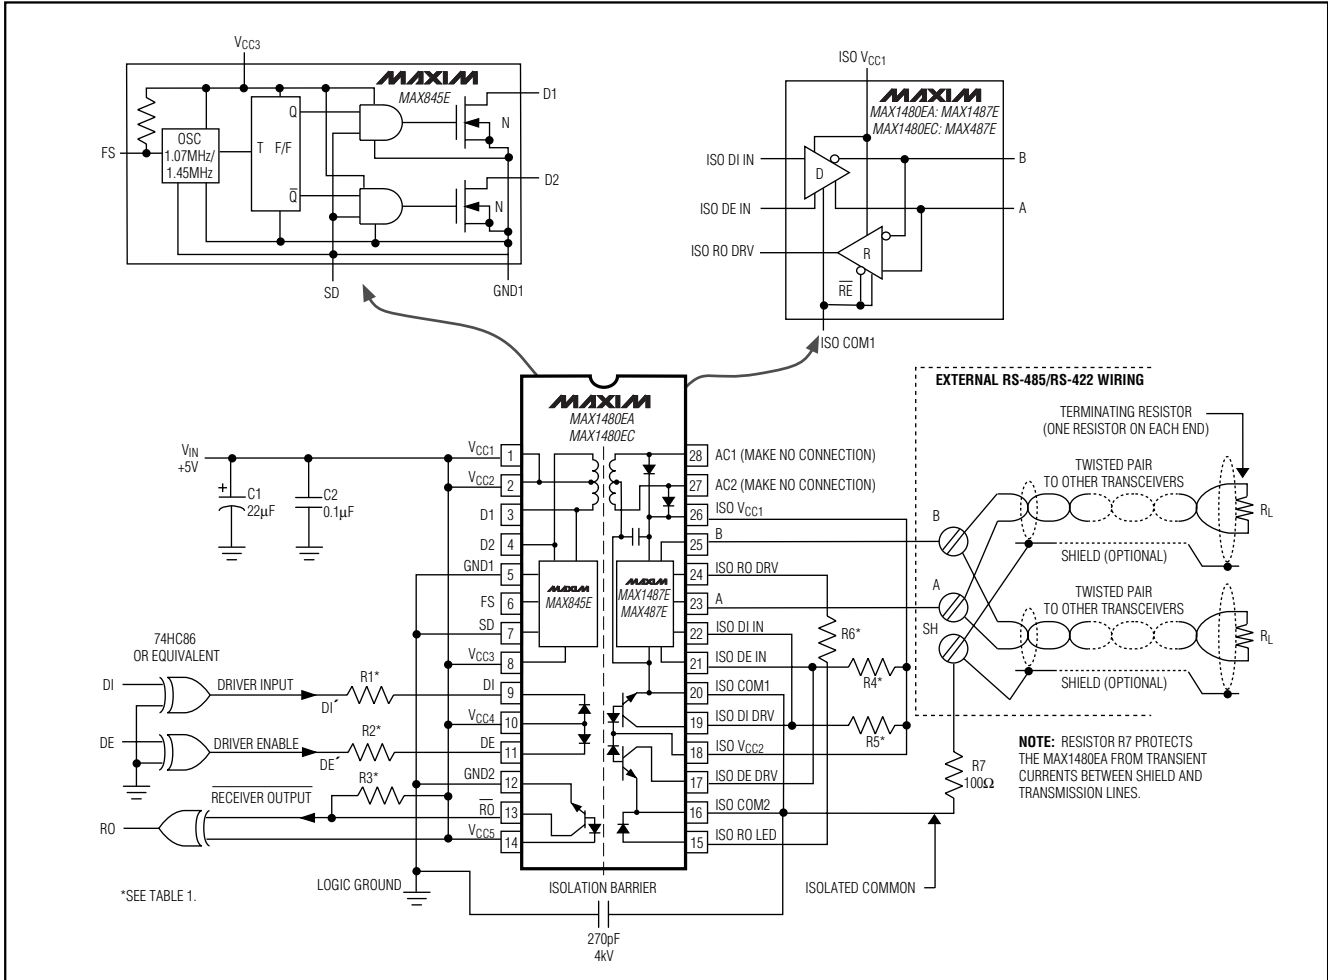
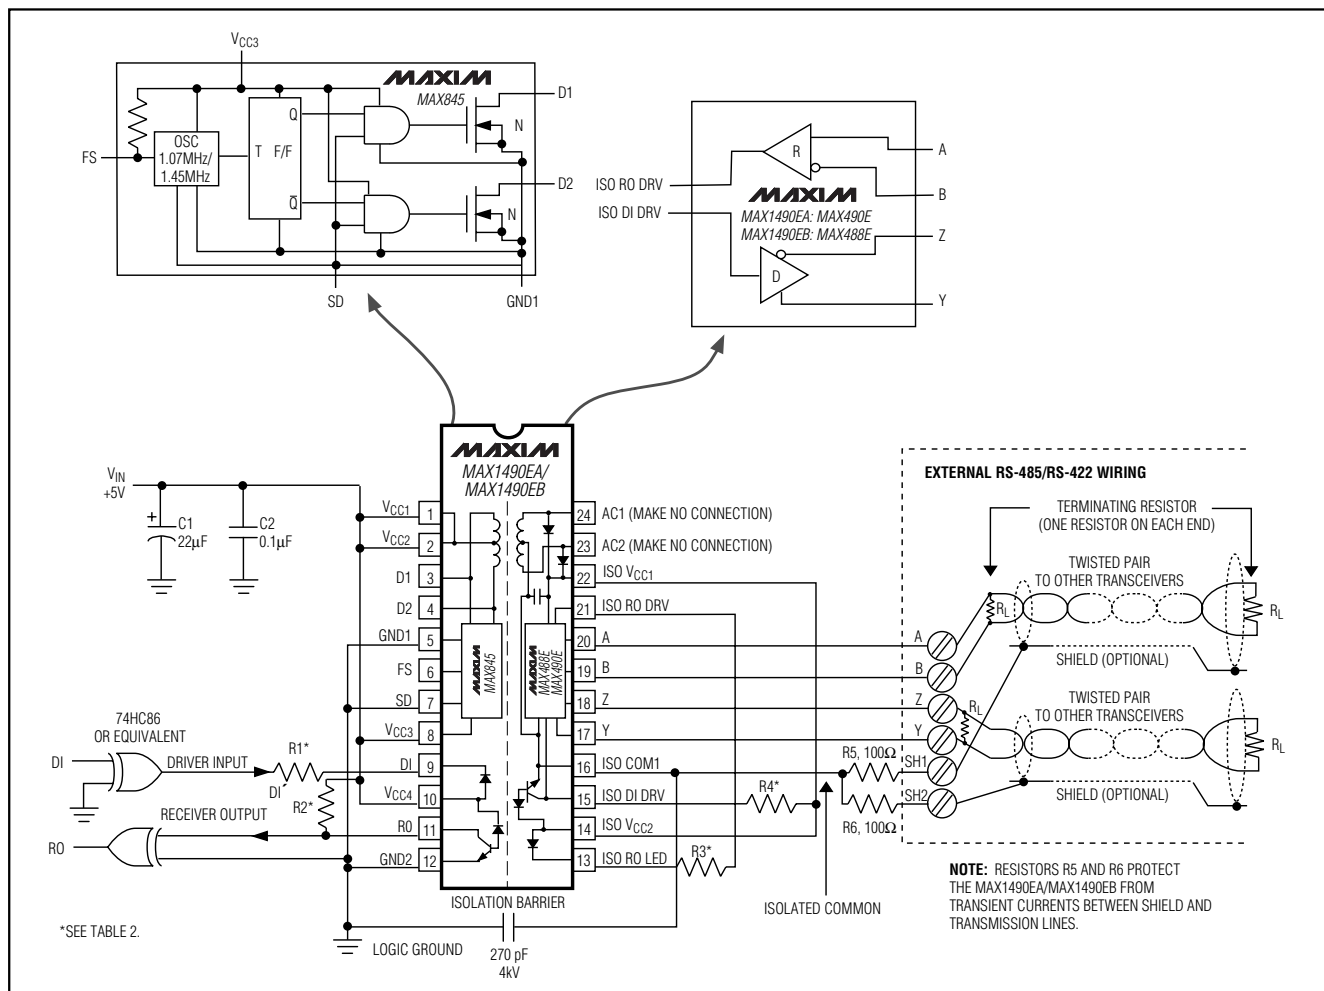

Figure 1. MAX1480EA/MAX1480EC Detailed Block Diagram and Application Circuit
Figure 2. MAX1490EA/MAX1490EB Detailed Block Diagram and Typical Application Circuit
Note 2: For DE⁺ and DI⁺ pin descriptions, see *Detailed Block Diagram and Typical Application Circuit* (Figure 1 for MAX1480EA/MAX1480EC, Figure 2 for MAX1490EA/MAX1490EB).
($V_{CC-} = +5V$, $V_{FS} = V_{CC-}$, Figures 1 and 2, $T_A = +25^\circ C$, unless otherwise noted.)
($V_{CC-} = +5V$, $V_{FS} = V_{CC-}$, $V_{DI} = 0$, \overline{DE} toggled 0 to 5V at 5kHz, Figures 1 and 2, $T_A = +25^\circ C$, unless otherwise noted.)
Note: For DE⁺ and DI⁺ pin descriptions, see Detailed Block Diagram and Typical Application Circuit (Figure 1 for MAX1480EA/MAX1480EC, Figure 2 for MAX1490EA/MAX1490EB).
The MAX1480EA/MAX1480EC/MAX1490EA/MAX1490EB are complete, electrically isolated, RS-485/RS-422 data-communications interface solutions. Transceivers, optocouplers, a power driver, and a transformer in one standard 28-pin DIP package (24-pin package for the MAX1490EA/MAX1490EB) provide a complete interface. Signals and power are internally transported across the isolation barrier (Figures 1, 2). Power is transferred from the logic side (nonisolated side) to the isolated side of the barrier through a center-tapped transformer. Signals cross the barrier through high-speed optocouplers. A single +5V supply on the logic side powers both sides of the interface. The MAX1480EA/MAX1480EC offer half-duplex communications while the MAX1490EA/MAX1490EB feature full-duplex communication. The functional input/output relationships are shown in Tables 3 through 6.
Table 1. Pullup and LED Drive Resistors for Figure 1
Table 2. Pullup and LED Drive Resistors for Figure 2
* For DE[′] and DI[′] pin descriptions, see Detailed Block Diagram and Typical Application Circuit (Figure 1 for MAX1480EA/MAX1480EC, Figure 2 for MAX1490EA/MAX1490EB).
The ±15kV ESD test specifications apply only to the A, B, Y, and Z I/O pins. The test surge may be referenced to either the ISO COM or to the nonisolated GND (Figures 1 and 2).